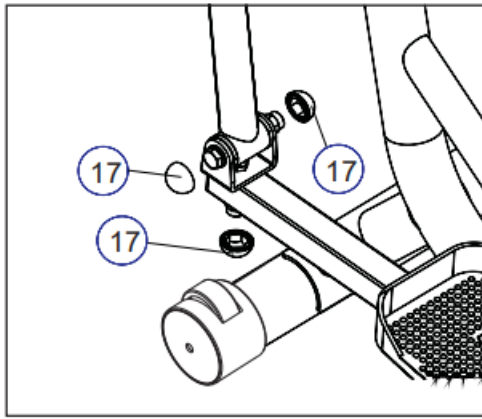

Figure 12
10.1 After the whole machine is finished installing, cover the Nut cover S=17 (17) at the joints of the U-shaped seat weldment of the left and the right swing arm. (see fig.12) 10.2 Use the Screwdriver (36) applied and st4.0x15 bolt (40) to fix the bottle holder(13) on the Centre bar(2). (see fig.13)